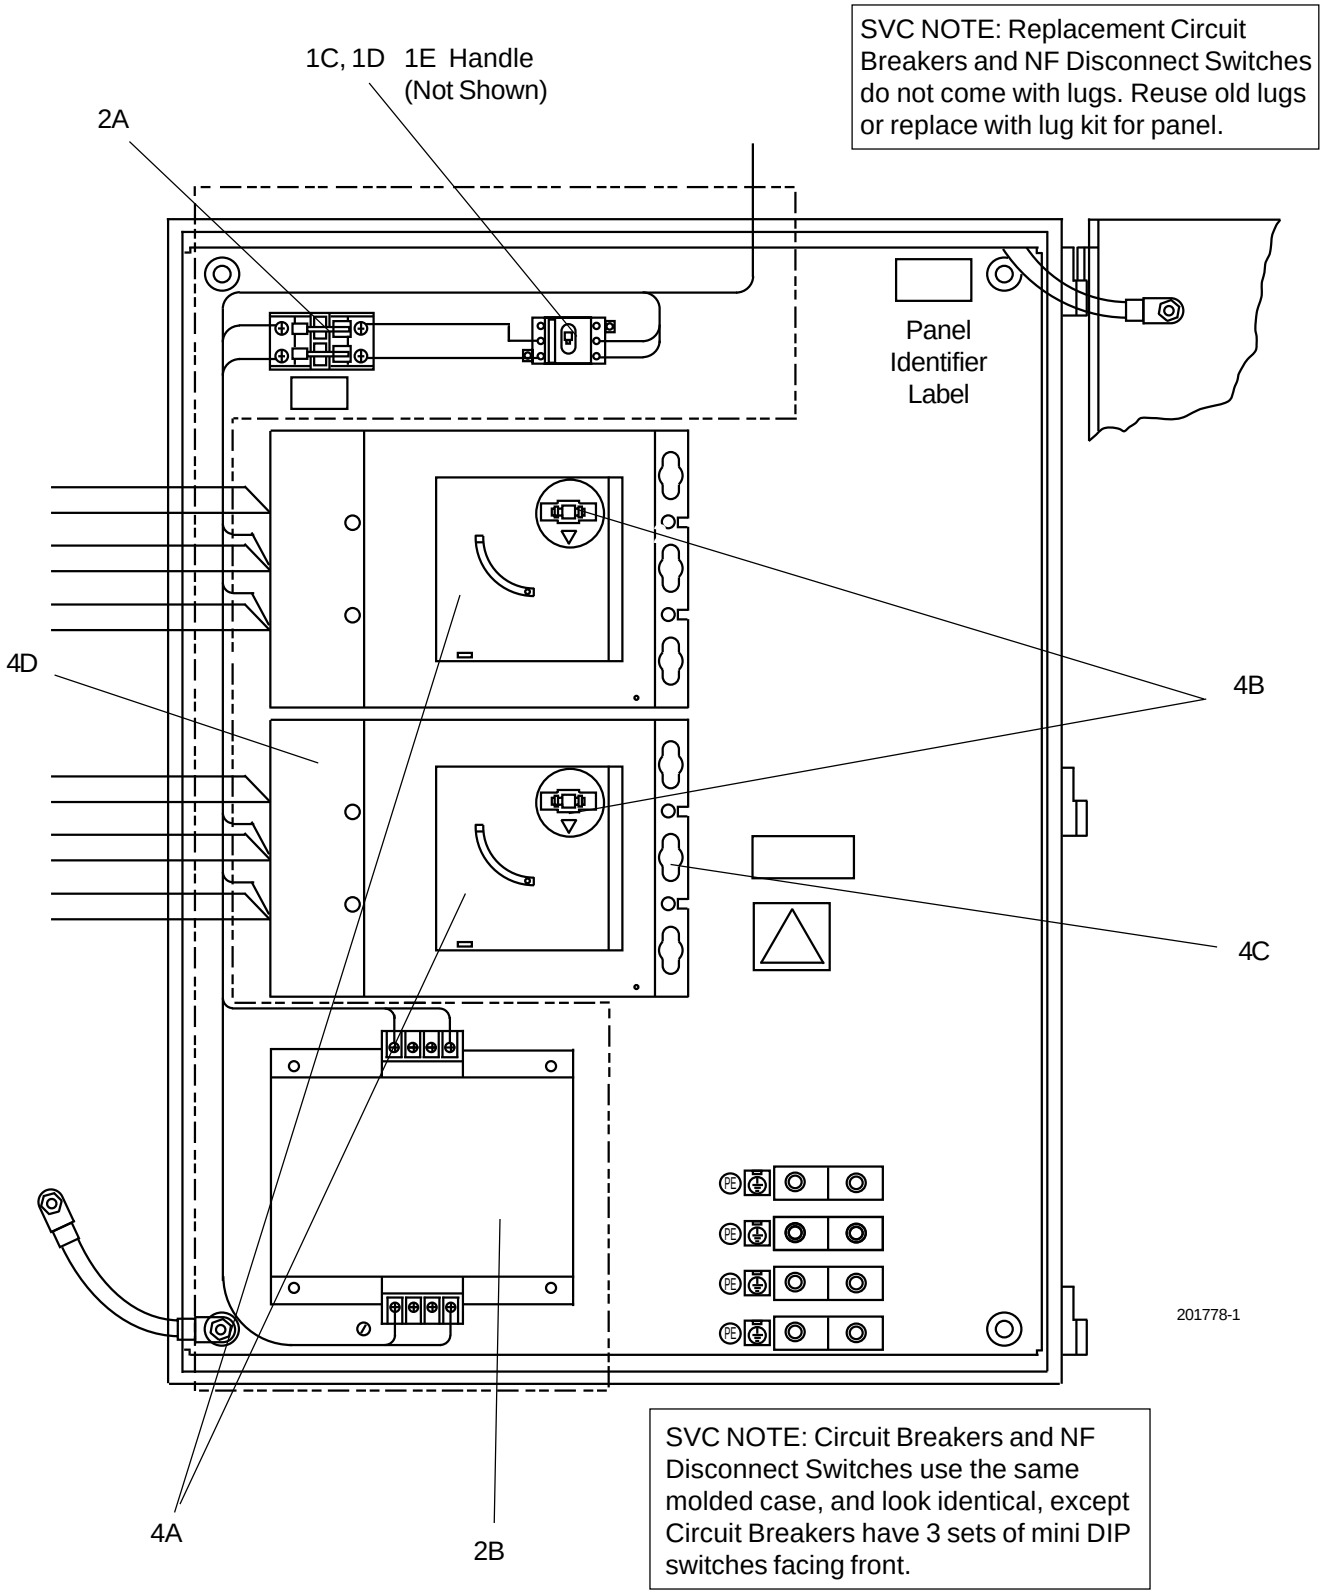

FIG. 24 – OPTION PANEL SHOWN WITH CIRCUIT BREAKER OR NON-FUSED DISCONNECT SWITCH (REF. TABLE 19, PAGES 51 & 52)
TABLE 18 – OPTION PANEL IDENTIFIERS (TO IDENTIFY REPLACEMENT PART NUMBERS, SELECT PANEL IDENTIFIER NUMBER BELOW, THEN REFER TO HIGHLIGHTED ROW ON TABLE 19, AND FIGS. 24 AND 25 ON PAGES 53 AND 54)
*** Note:** To locate Option Panel Identifier, See FIGURES 24 and 25 for Part Label location.
TABLE 19 – OPTIONS PANEL COMPONENTS (SEE FIGS. 24 AND 25, PAGES 53 & 54)
TABLE 19 – OPTIONS PANEL COMPONENTS (SEE FIGS. 24 AND 25, PAGES 53 AND 54)